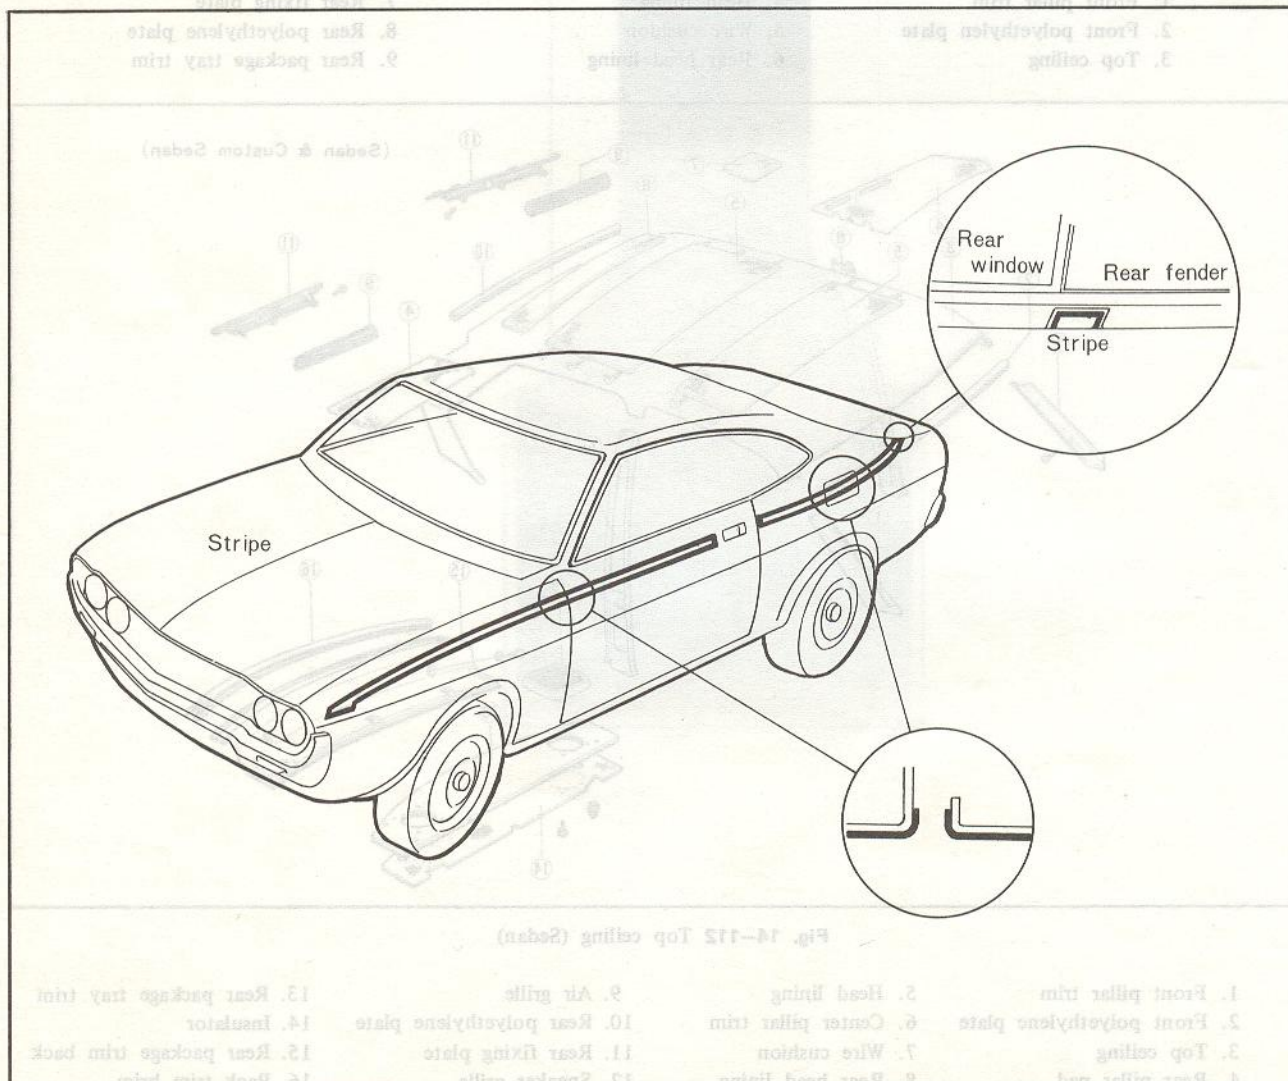

Fig. 14-113 Stripe
3. On the gap between door and fender, filler lid and fender, stick the tape without cutting. After that, cut the tape at the center of the gap and stick fast the end of the tape to body with squeeze as shown in Figure.14-113.